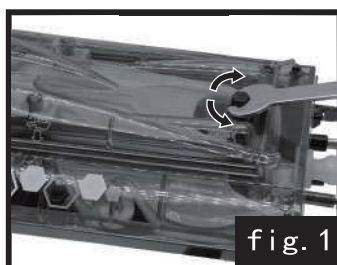
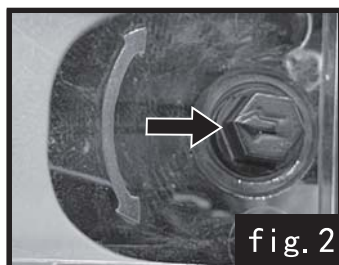

fig. 1
fig. 2
1. Use the complimentary wrench to clamp on the cabin lock at an angle of 45, and then turn the lock to the left or right. (Please ensure that the arrow of the cabin lock is in the left or right direction.), fig. 1 and fig. 2.
1.Disconnect the motor from the battery,fig.1.
2.Unscrew the motor protection cover,fig.2.